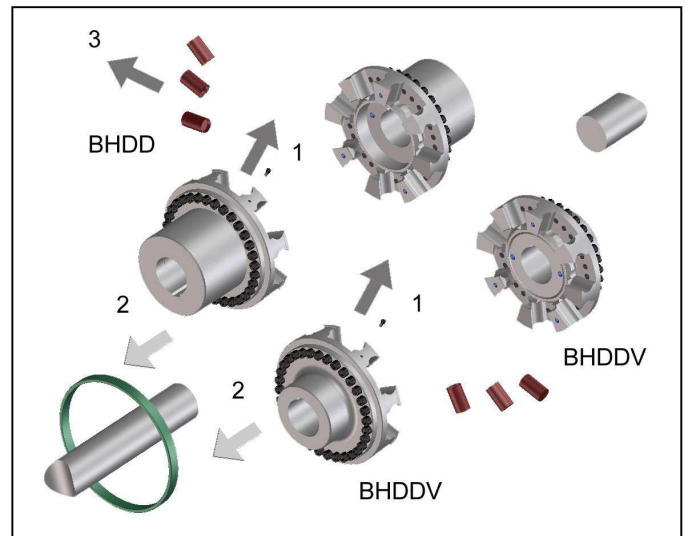

Fig. 5
- Remove the locking screws (Fig. 5, Pos. 1) at the retaining ring and put this onto the shaft end (Fig. 5, Pos. 2).
- Take out the elastic buffers (Fig. 5, Pos. 3).
- Mount the coupling hubs in the proper position on the shaft ends (Fig. 5, Pos.2).